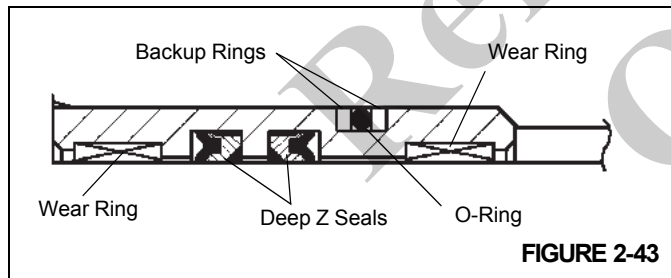

FIGURE 2-43
2. Install the O-ring and backup rings on the outside of the seal retainer and the deep Z rod seals and wear rings in the inside of the seal retainer (Figure 2-43).